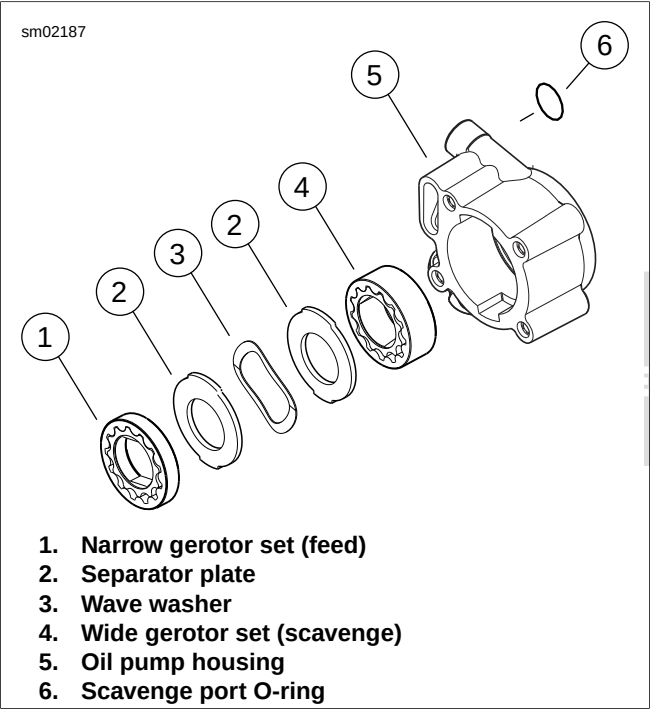

Figure 3-58. Assembling Oil Pump
16. See Figure 3-58. Assemble and install oil pump. Lubricate parts with clean H-D 20W50 engine oil during assembly.
- a. Apply a very thin film of clean H-D 20W50 engine oil to **new** scavenge port stub o-ring (6). Install **new** o-ring on scavenge port stub of oil pump housing.
- b. Slide oil pump housing (5) onto crankshaft fitting o-ring on scavenge port stub into crankcase bore at back of cam compartment. Firmly push on scavenge port stub with thumb to be sure that it is snug in bore. Inspect o-ring on stub to verify that it is not pinched or distorted.
- c. Separate the gerotor gears into two sets, one wide (4) (scavenge) and the other narrow (1) (feed).